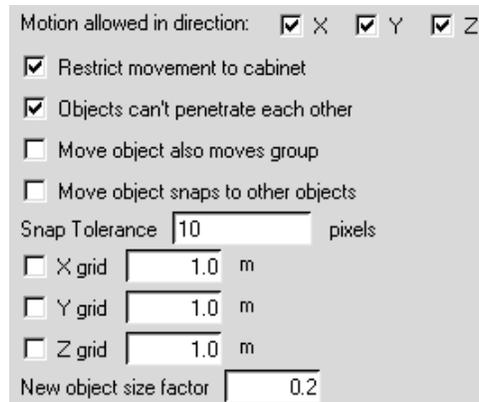

Figure 7.2.7: The Interaction Section of the Preferences Panel
- Hold down the <Shift> key on the keyboard, use the middle mouse button to click on the room, and then drag the room to its new location. Options available for moving the room interactively using the mouse are available in the **Interaction** section of the Preferences panel (Figure 7.2.7) and are described below.